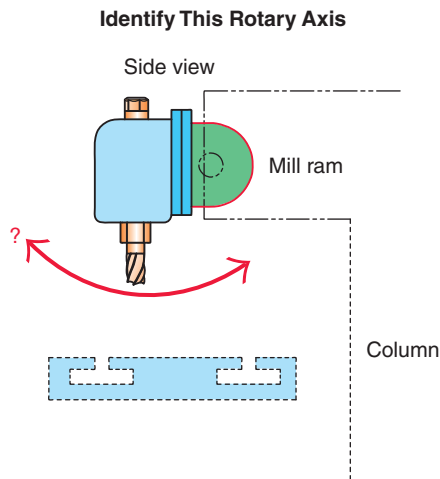

Figure 12-50 Name this setup rotary axis.
- On an R&T type mill (Fig. 12-50), the two rotary positioning movements of the spindle head can be called A and B according to the industry standard notation. In looking from the side of the mill table, what rotary axis positioning would this be, A or B?